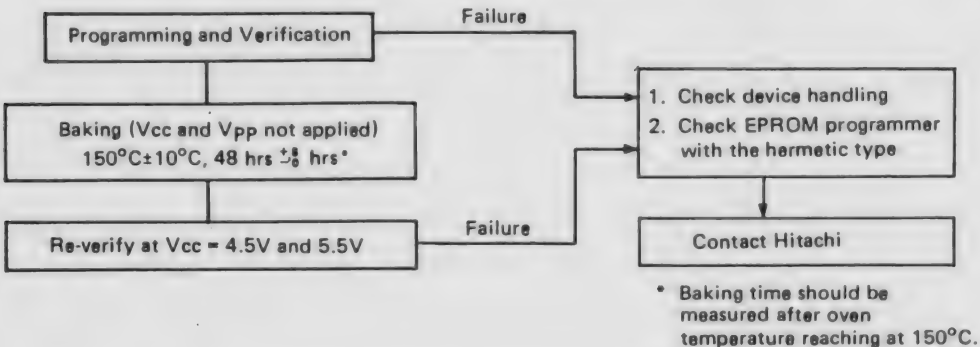

Figure 31 Recommended Screening Procedure of the ZTAT™ MICRO
(3) Screening procedure of the ZTAT™ MICRO
In general, any standard manufacturing screening of semiconductor devices will make initial failures rejected and improve reliability. The bake procedure is the standard screening for EPROM devices, which accelerates any electron leakage at the floating gate described before (see (1)). The manufacturer, of course, tests the CPU, RAM, I/O, other logic functions and the PROM of the ZTAT™ MICRO after screening at wafer site, and rejects any devices which do not pass the tests. If users require improving reliability of the ZTAT™ MICRO's PROM portion, it is recommended that users also carry out the screening procedure shown in Fig. 31 after programming.
(Caution) If the user experiences several consecutive programming failures, from same EPROM programmer, after the recommended screening procedure shown in Fig. 31, then call Hitachi.